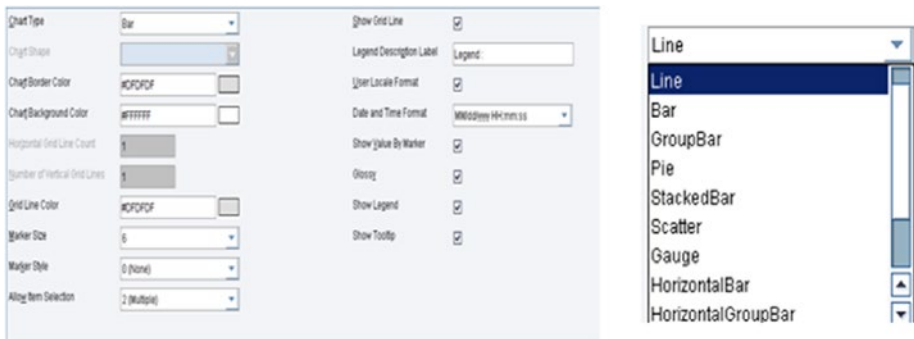

Figure 7-39. i5Chart chart area configuration with available chart types
- *i5Chart Chart Area:* The Chart Area tab configures chart type, colors, fonts, general chart parameters, and behaviors while elements are displayed in a chart. See Figure 7-39.